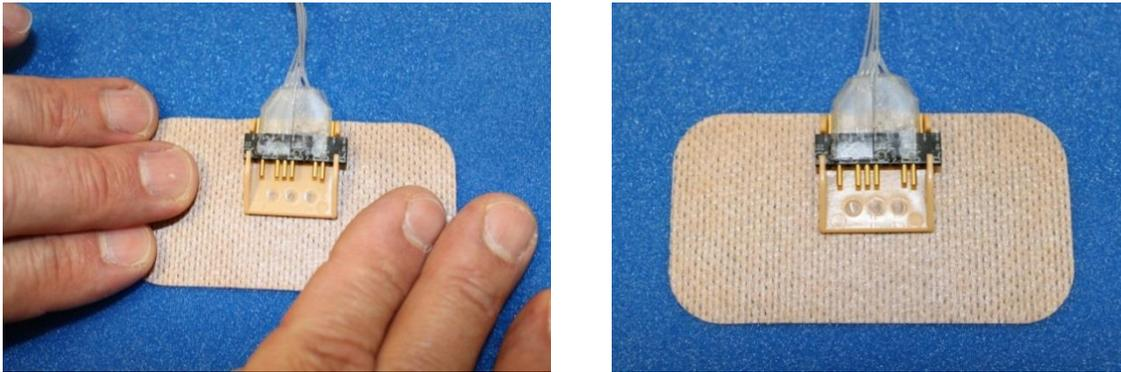

Figure 20
7. Carefully press the new connector holder onto the skin (Figure 20).